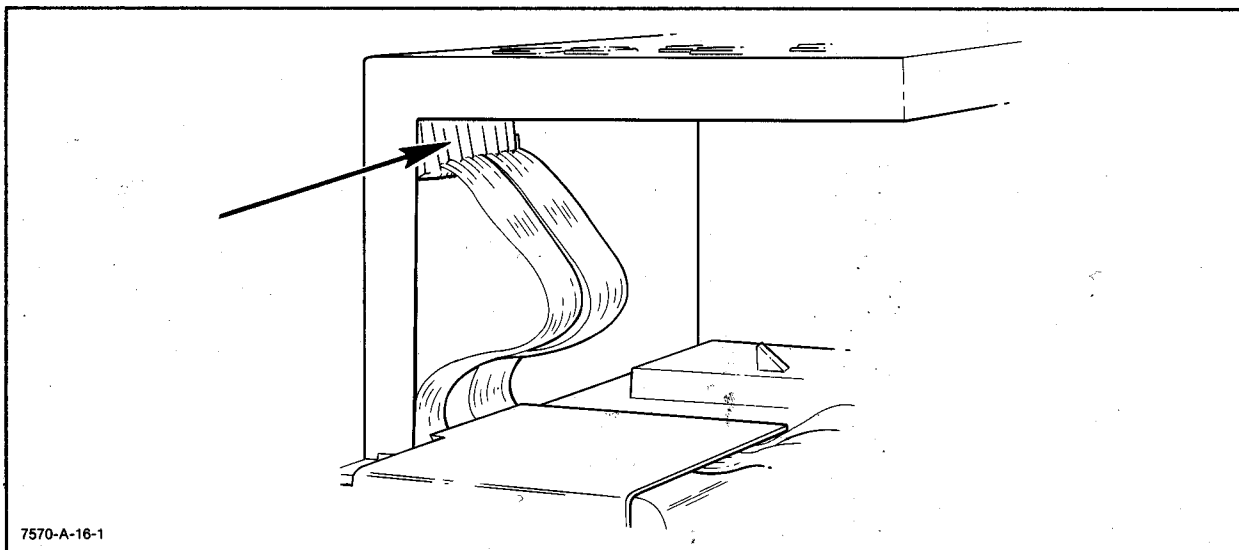

Figure 6-9. Front Panel Cable Connection
- d. Carefully disconnect the front panel cable assembly from under the front panel assembly. See Figure 6-9.